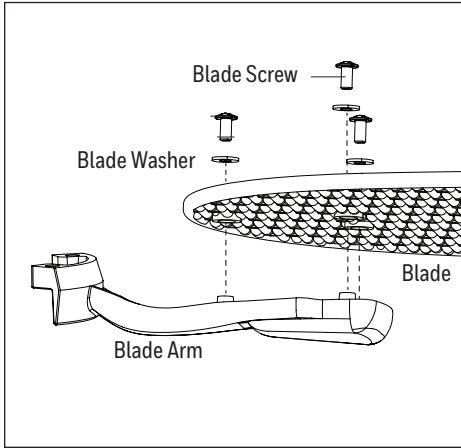

Figure 5.4
4. Partially insert the blade screws along with lock washer and blade washer through blade and into the blade arm. Tighten each blade screw starting with the one in the middle (Figure 5.4). Repeat this step for the remaining blades and blade arms.